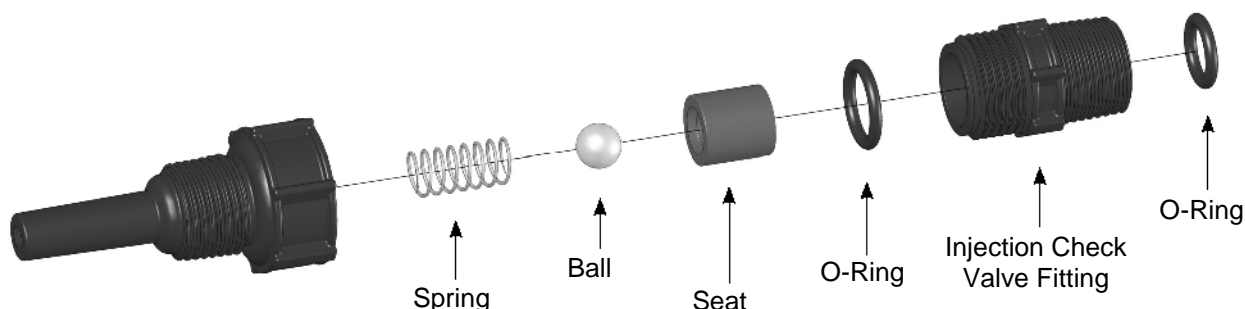

Figure 29: Injection Check Valve Assembly
3. Carefully disconnect the tubing leading to the injection check valve (Figure 29).